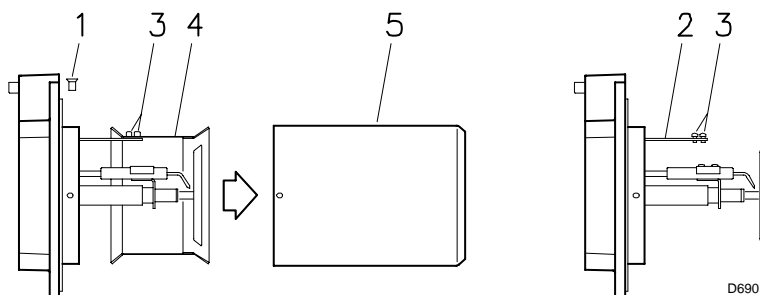

Fig. 8
**5.5 Securing the burner to the boiler (Fig. 8)**
- Unscrew the screws 1) (Fig. 8) and disassemble the blast tube 5)